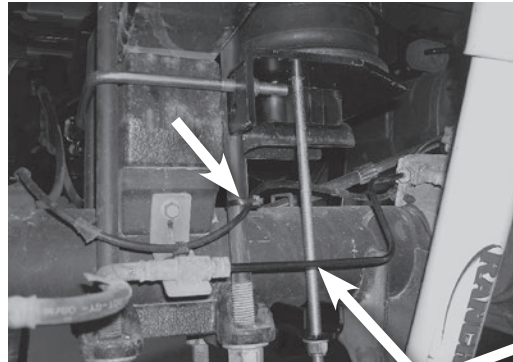
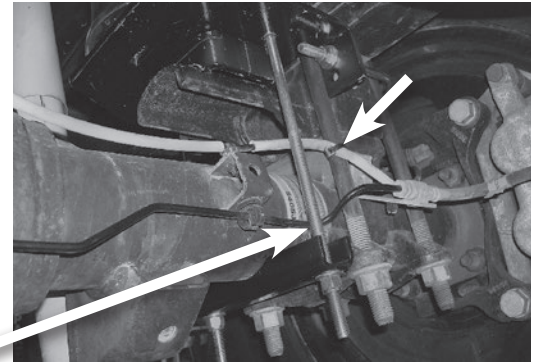

fig. D.20
fig. D.21
On the driver's side (left), the long carriage bolt in the lower bracket main plate should be located between the hard brake line and axle (Fig. D.20). On the passenger's side (right), the carriage bolt should be located on the backside of the brake line (Fig. D.21).
6. Figures D.20 & D.21 show the lower bracket installed.